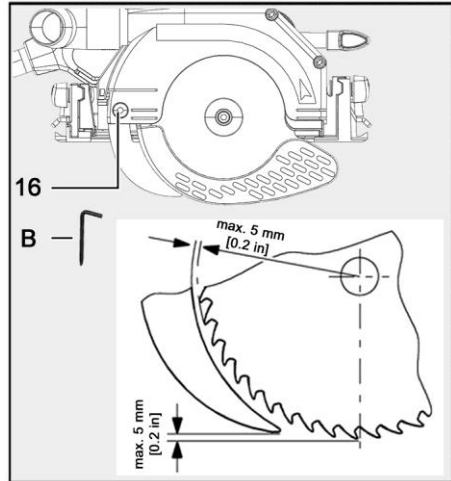

Fig. 10: Distance riving knife to saw blade
2. Using the Allen key (B) provided, turn the screw (16) **counterclockwise** to adjust it.
- Do not exceed the maximum distance to the saw blade (see Fig.. 10).
4. Using the Allen key (B), turn the flange screw (16) **clockwise** to tighten it.